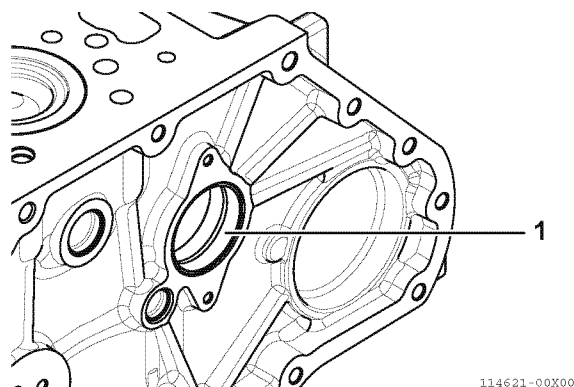

Fig.11-7
- 1 - Measure the inner diameter of the camshaft gear-side bushing (1, Fig.11-7) and the inner diameters of the remaining 4 bushings. Measure the inner diameter diameters at the other 4 locations after removing the crankshaft, pistons, and connecting rods. For reference value, see 0000-07-01-02 "Camshaft".